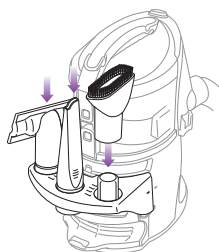

Fig. 3
- 3 Insert the crevice tool, dusting brush and upholstery brush into the openings on the tool caddy. (fig. 3)